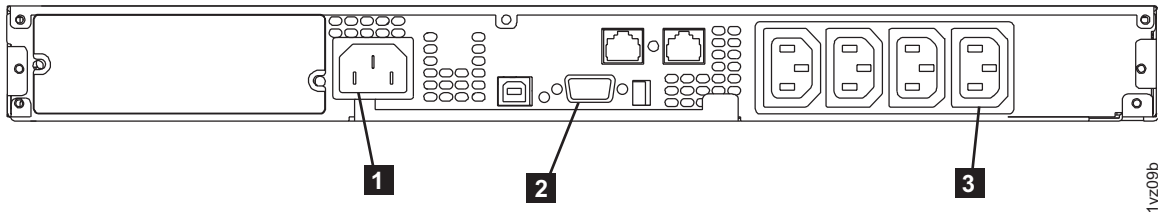

Figure 310. 2145 UPS-1U (rear view)
9. At the back of the 2145 UPS-1U, connect the SAN Volume Controller power cable to load segment 2 receptacle ( **3** in Figure 310 on page 279). If applicable, install the power cable-retention bracket (shown in Figure 309 on page 279).
10. Reconnect the SAN Volume Controller signal cable to the communication port ( **2** in Figure 310).
11. Reconnect the 2145 UPS-1U main power cable, from either the power distribution unit or from the redundant ac-power switch, into the input connector ( **1** in Figure 310).
The 2145 UPS-1U is now in standby mode with the SAN Volume Controller offline. All indicators that are shown in Figure 310 are off.